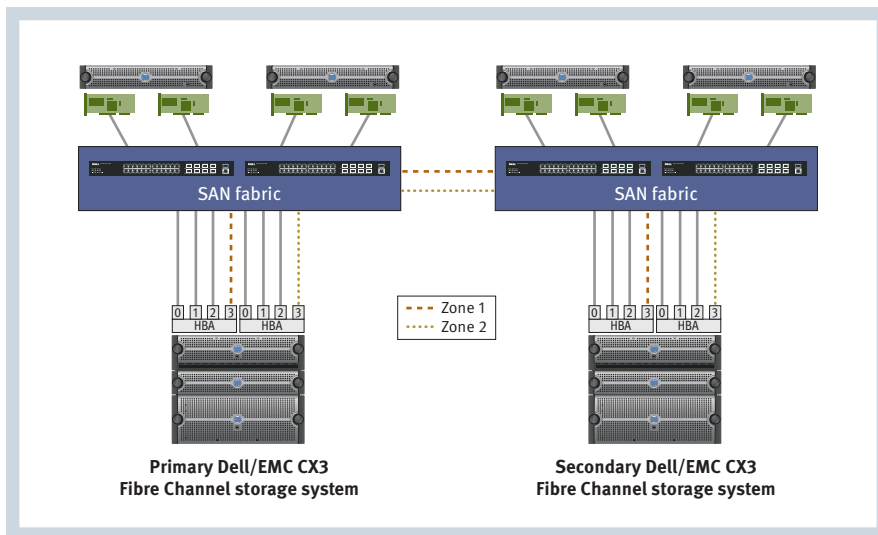

Figure 3. Creating an EMC MirrorView remote mirror connection through a Fibre Channel–based SAN fabric
MirrorView uses a front-end port, called the mirror port, on each storage processor (SP) as a communication channel between the storage systems in a remote mirror configuration. For MirrorView to work correctly, a Fibre Channel connection must exist between the primary and secondary storage systems, either directly or through a switch fabric. The SP A mirror port on the primary storage system and the SP A mirror port on the secondary storage system must be zoned together. Similarly, the SP B mirror port on the primary storage system and the SP B mirror port on the secondary storage system must be zoned together. Figure 3 shows an example remote mirror connection through a Fibre Channel–based storage area network (SAN) fabric.